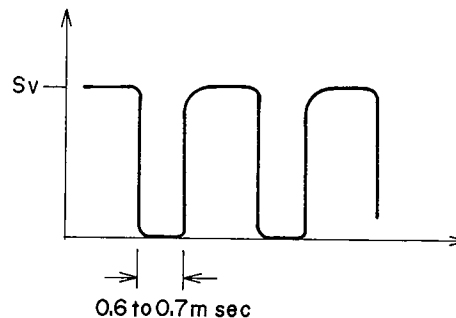

Fig. 40
- 1) Connect a probe to point ① of R84.
- 3) Adjust VR3 until the oscilloscope waveform in Fig. 40 is obtained.
- 4) Revolve the platter once and check that the pulse wave only enters the places where there are holes. Next check that the waveform in Fig. 40 appears at each hole.